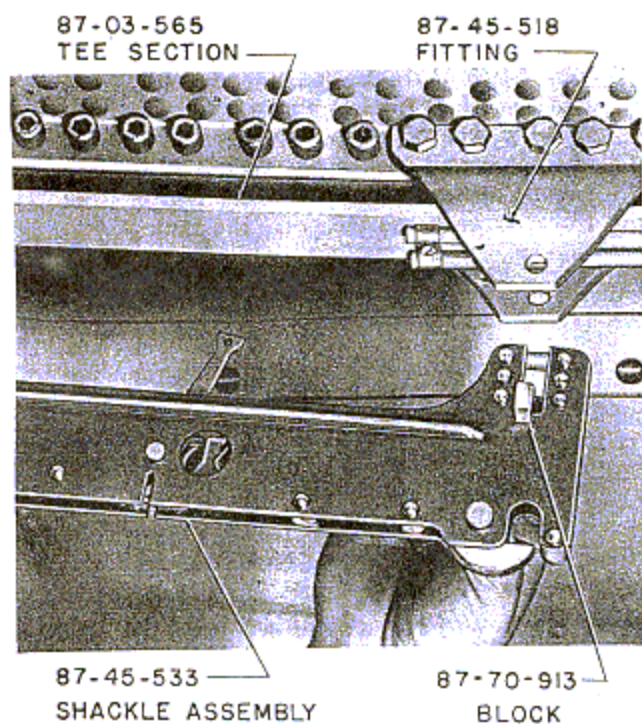

Figure 72—Inserting Block in Shackle Prior to Installation
26. Install the bomb shackle. Be sure to install the block, part No. 87-70-913, as shown in figure 72.